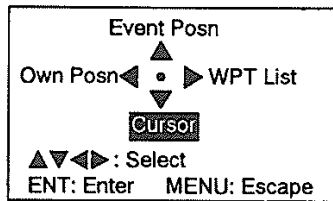

Figure 1-17
- 1) Press the [WPT] key. The display shown in Figure 1-17 appears.